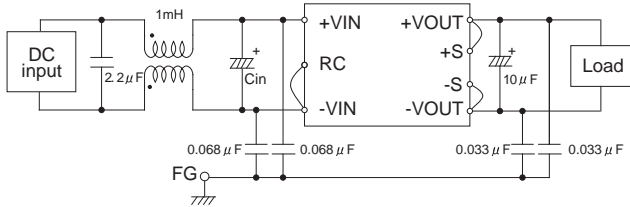

Fig.3.1 Recommended external input filter
(2) External capacitor on the input side
(3) Recommended of noise-filter
■ Install an external input filter as shown in Fig.3.1 in order to reduce conducted noise. C_{in} is shown in Table 2.1.